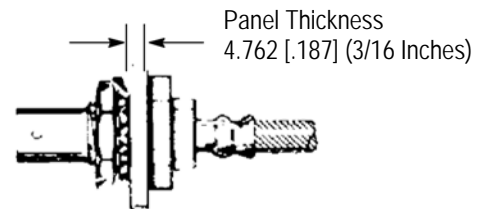

Figure 9
6. If the panel has not already been cut, cut it to the dimensions in Figure 9.